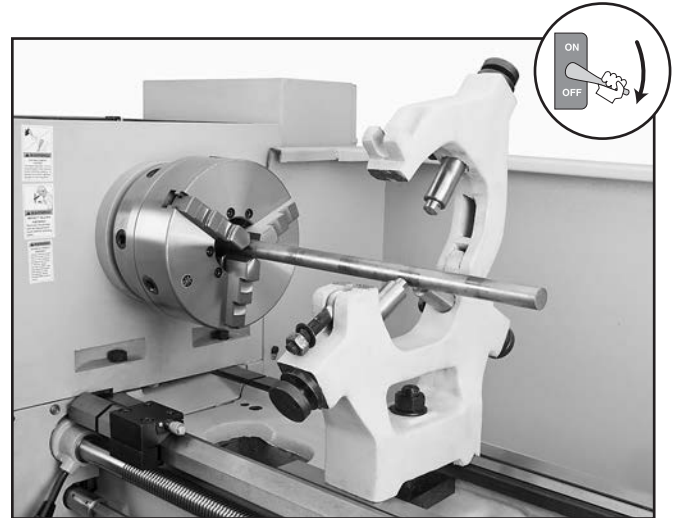

Figure 60. Workpiece mounted in the steady rest.
4. Loosen the hex nut that secures the top half of the steady rest and open the top, as shown in **Figure 60**.
6. Use the finger adjustment knobs to position the bottom two fingers so they barely touch the workpiece, as shown in **Figure 60**.